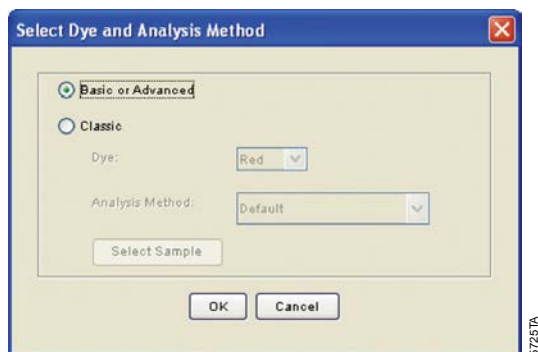

Figure 20. The Select Dye and Analysis Method window.
4. Select “Basic or Advanced” (Figure 20). The type of analysis method selected must match the type of analysis method created earlier. Select “OK”.